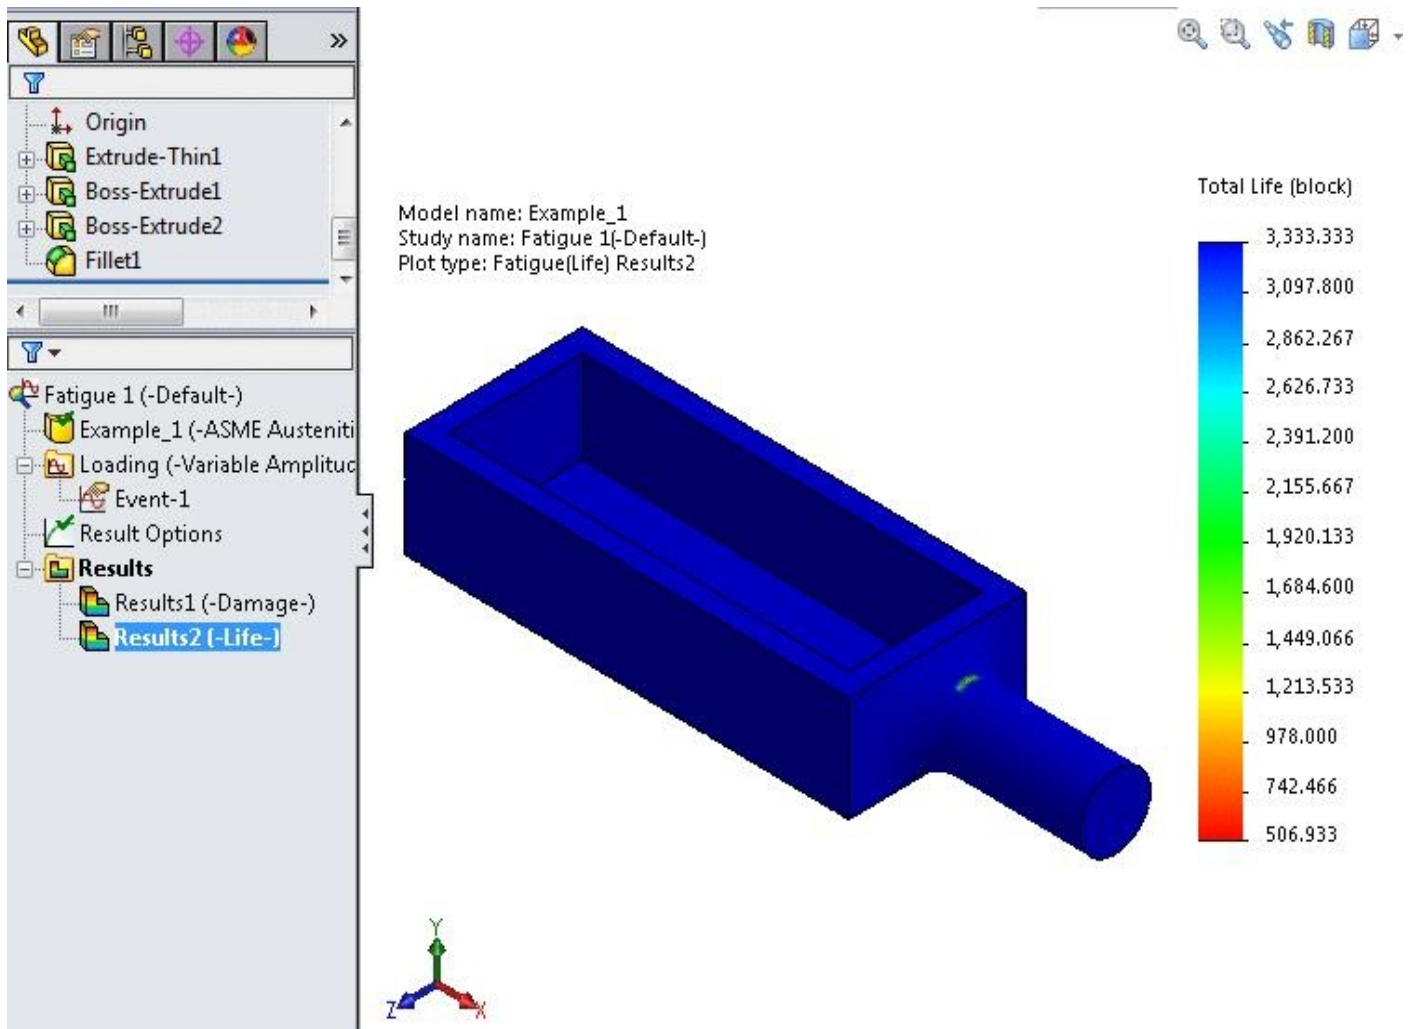

Figure-12. Results
- Double-click on the **Results2 (-Life-)** node in the **Analysis Manager**. The results will be displayed as shown in Figure-12.